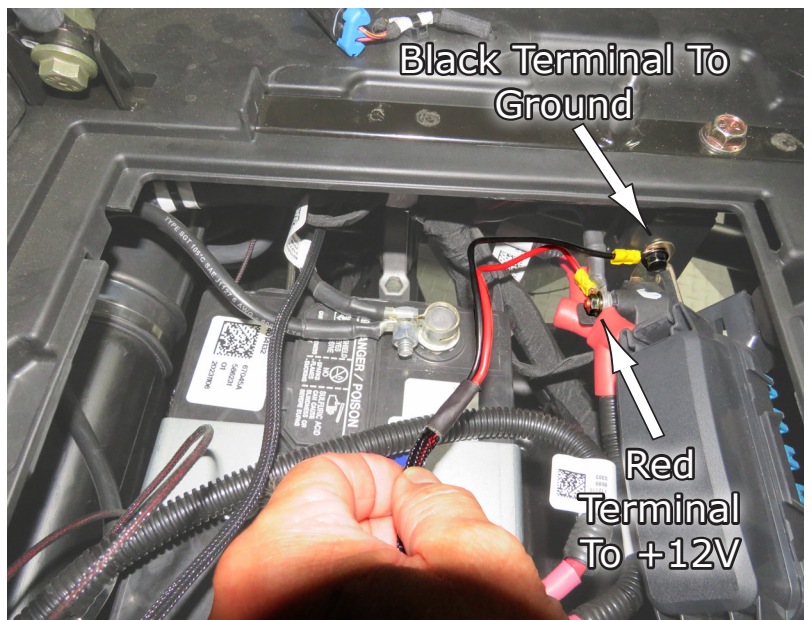

Fig.24
24. Now hook up the **Red Ring Terminal** to the +12V on your battery, and the **Black Ring Terminal** to battery Ground as shown in **Fig.24**.